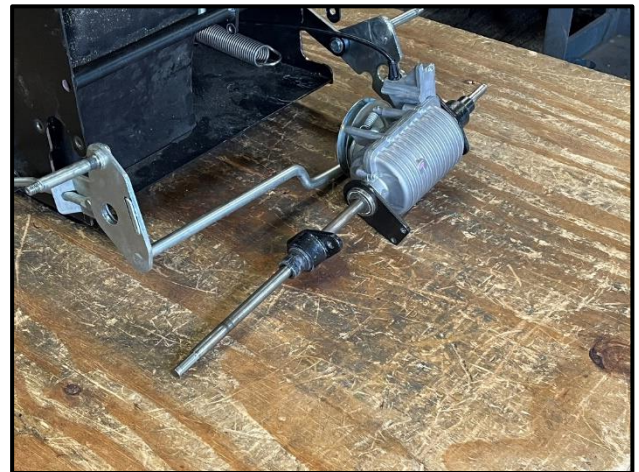

Figure 9
- Shift the Transmission and Axle to the left, allowing you to angle the right-hand side away from the Height Adjust Weldment. Shift the Axle back to the right and separate the Transmission from the Height Adjust Assembly (**Figure 9**).